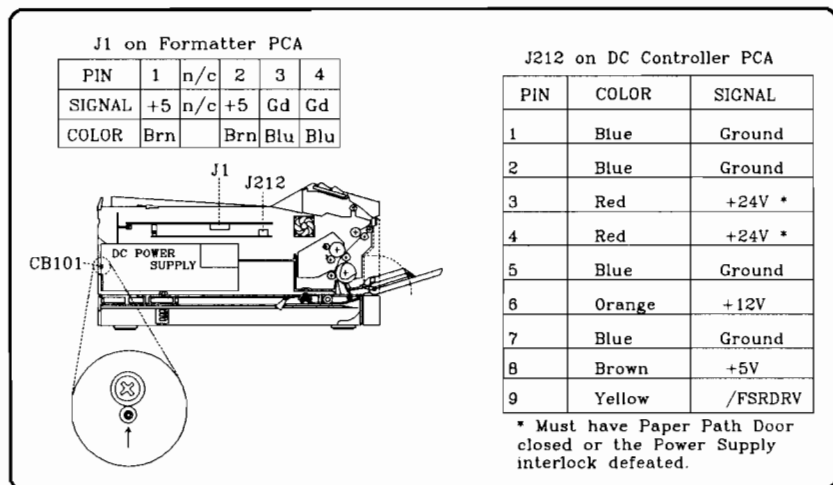

Figure 7-1. Power Distribution Check
2. Using a DC voltmeter, verify the missing or marginal voltage(s) at connector J1 on the Formatter PCA and J212 on the DC Controller PCA as shown in Figure 7-1.